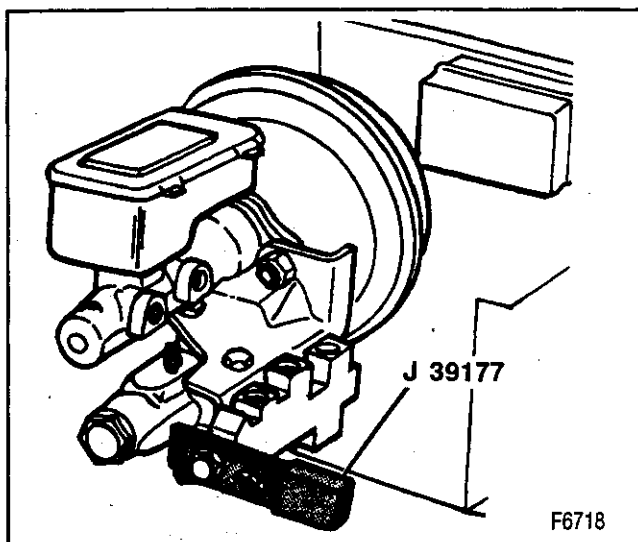

Figure 14—Combination Valve Pressure Bleeding Tool
3. Use J 39177 to depress and hold the valve stem on the combination valve (figure 14).